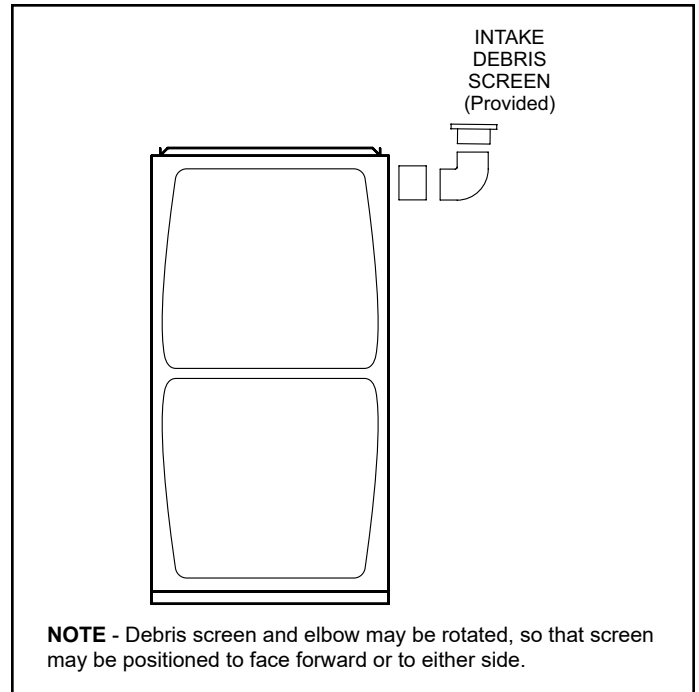
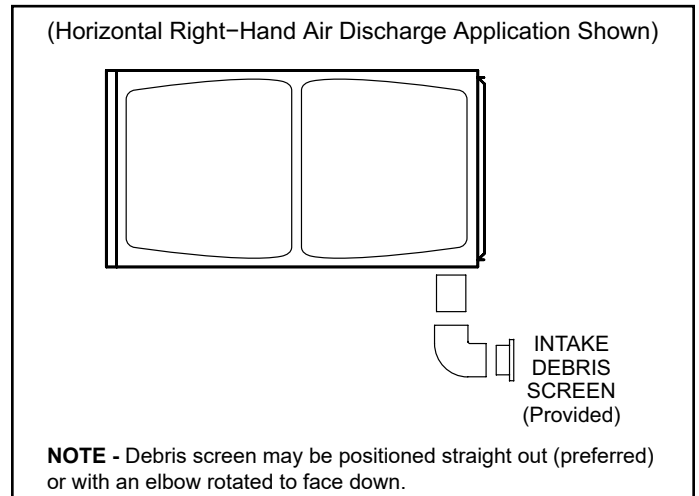

Figure 25. Typical Air Intake Pipe Connections Upflow Non-Direct Vent Applications
Figure 26. Typical Air Intake Pipe Connections Horizontal Non-Direct Vent Applications
1. Use field-provided materials and the factory-provided air intake screen to route the intake piping as shown in Figure 25 or Figure 26. Maintain a minimum clearance of 3" (76mm) around the air intake opening. The air intake opening (with the protective screen) should always be directed forward or to either side in the upflow position, and either straight out or downward in the horizontal position.